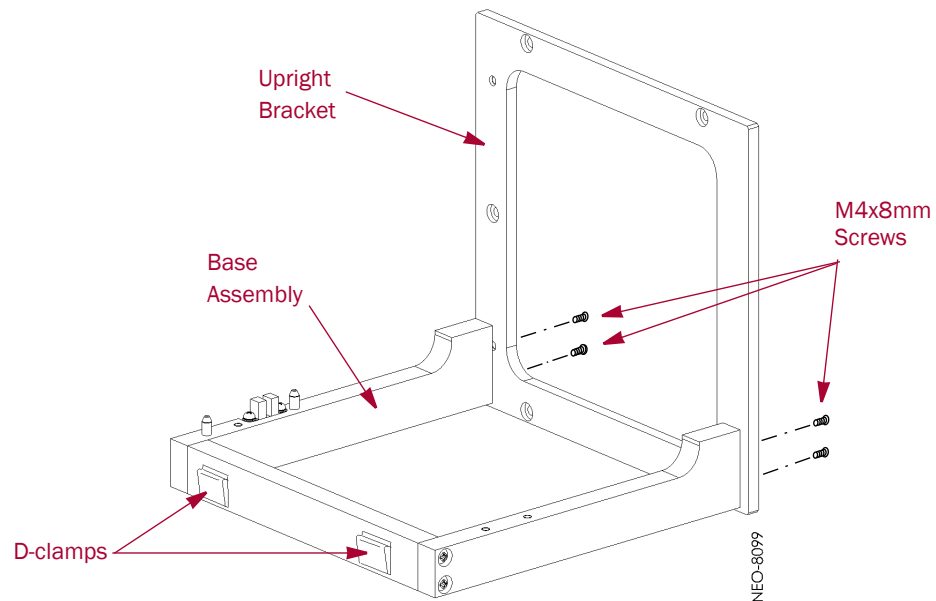

Figure 3-2: Mounting Bracket Assembly for HRA (D-clamps Attached)
1. Use **four M4x8mm** screws from the Mounting Bracket kit to attach the upright bracket to the base assembly (see Figure 3-2).